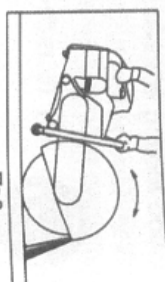

Fig 2
V. Check to make sure the blade guard has no visual damage. Adjust the guard as necessary so the spark generated during cutting can be directed away from the operator. (Ref. Fig.2)